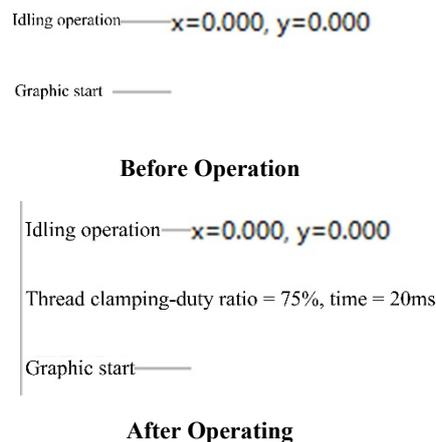

Fig. 5.10.5a Schematic Diagram of the Operation of the Whole Graphic Start Command Set
③ After adding all commands, if there are any that need to be deleted or modified, just double-click the command segment to change the parameters and the parameter setting box will pop up. To delete a command, just select the command segment and click the Delete button. To move the command segment, just select the command and click the "↑" and "↓" buttons to move the command segment up/down.
④ Finally, click OK to save this default command set. After clicking the command processing, these commands will be added by default at the whole graphic start. The operation diagram is shown in Fig. 5.10.5a below.